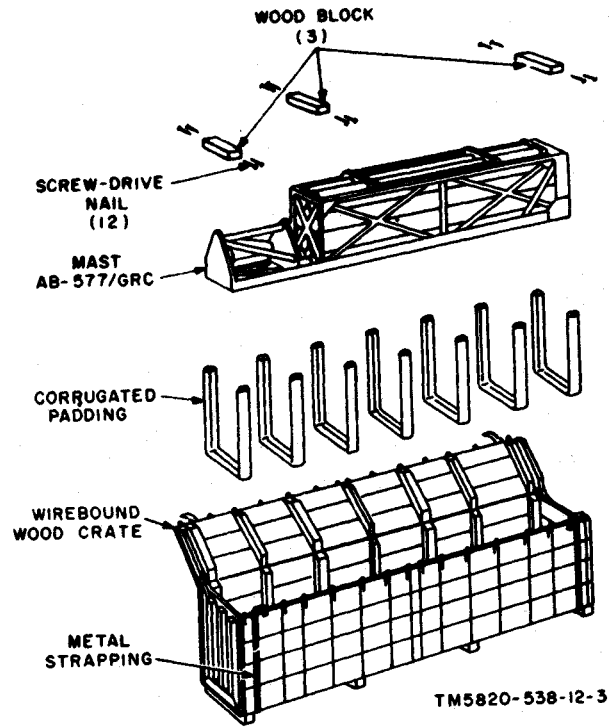

Figure 2-3. Typical packaging, launcher and mast section carrier.
(2) Set an open mast section coupler over the top of the mast section (B, fig. 2-3).
(3) Place the AT-903/G on the end of the mast section. Rotate the AT-903/G until the key in its base seats in the slot in the mast section; tighten the mast section coupler. The mast section is securely clamped if the mast section coupler cannot be manually turned about the mast joint. If the mast section coupler can be turned, replace it with another coupler and again test to ensure a securely clamped joint. If changing coupler fails to produce a secure joint, the lower mast section may be defective and should be replaced.
(4) Proceed to *f* below.
(3) Set the antenna adapter on the end of the mast section (B, fig. 2-3).
(4) Rotate the antenna adapter until the key engages the slot in the top of the mast section and prevents further rotation.